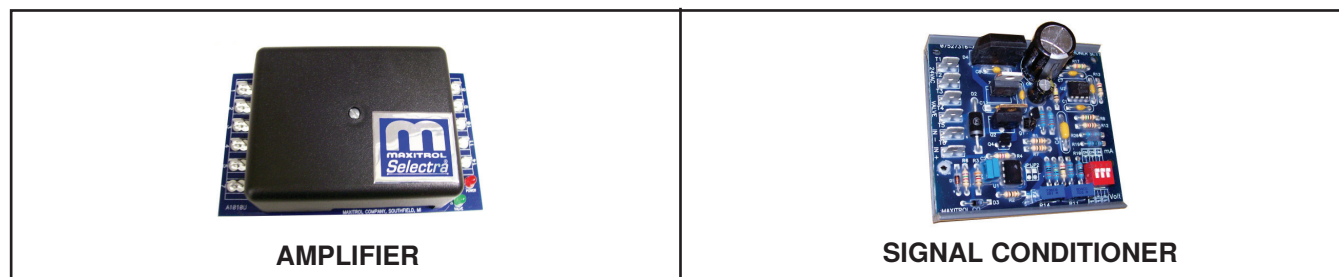
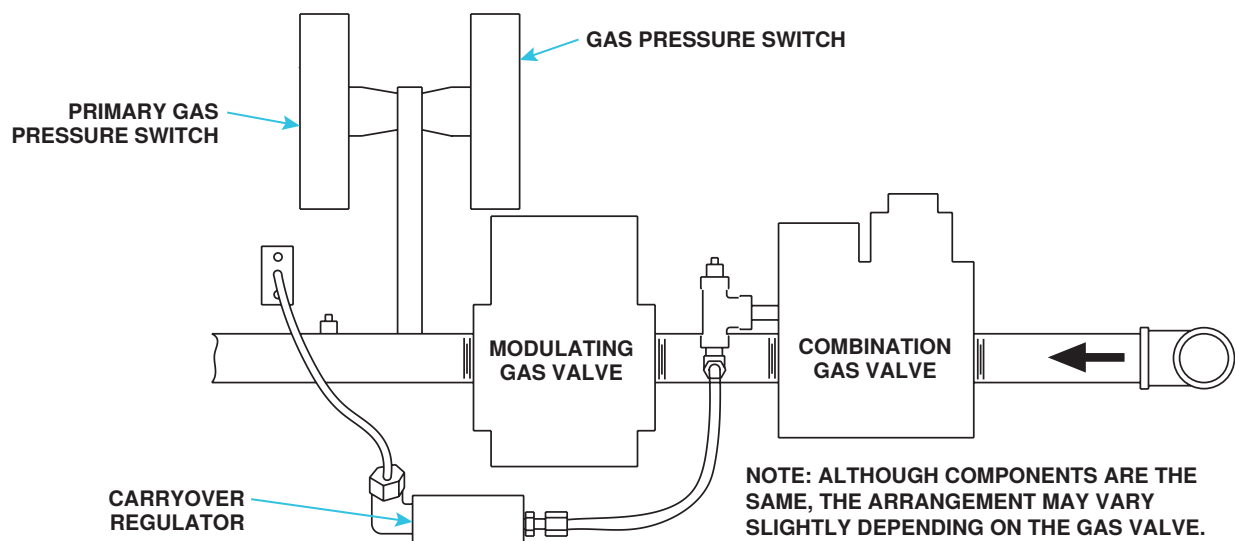

Figure 32. Maxitrol Amplifier and Signal Conditioner
Figure 33. Typical Manifold Arrangement with Electronic Modulation
- **Electronic modulation between 50% and 100% firing rate (option AG8):** Electronic modulation for makeup air application that is controlled by a duct sensor and temperature selector (55–90°F (12.8–32.2°C)). The temperature selector setting for option AG8 is on the amplifier (see Figure 32). Option AG8 is available with an override thermostat.
- **Electronic modulation between 50% and 100% firing rate (option AG21):** With option AG21, the furnace is equipped with a Maxitrol signal conditioner (see Figure 32) that operates much the same way as the amplifier above to control the regulator valve. The signal conditioner accepts an input signal of either 4–20 milliamps or 0–10V from a customer-supplied control device such as a computer. With the dip switches on the conditioner positioned to ON, the conditioner accepts a 4–20 milliamp signal. With the dip switches on the conditioner positioned to OFF, the conditioner accepts a 0–10V signal. The conditioner converts the signal to the 0–20V DC current required to control the modulating valve.
- **Electronic modulation between 20–28% and 100% firing rate (option AG39):** Depending on its size, a furnace equipped with option AG39 has a 20–28% turndown ratio. The furnace will ignite at any input rate in the available range and will maintain average thermal efficiencies equal to or greater than the thermal efficiency at full fire. The gas train (see Figure 33) includes a single-stage gas valve, a modulating valve, and two gas pressure switches. The burner rack is equipped with one flash carryover and a regulated gas lighter tube system. The carryover lighter tube receives its gas supply through the regulator simultaneously with the gas to the burner. Control of the system is through a Maxitrol amplifier (see Figure 32) with a corresponding remote temperature dial. The gas supply (refer to pressure requirements in Table 21) connects to the single-stage gas valve. To compensate for additional pressure loss through the modulating valve, the single-stage gas valve has a custom outlet pressure setting higher than when it is used on a standard gas manifold. The pilot tubing connects to the pilot port on the single-stage gas valve. When the valve receives a call for heat from the amplifier and pilot is established, gas flow from the single-stage valve goes to both the modulating valve and the regulated lighter tube system. When the signal from the amplifier to the modulating valve requires less-than-high fire operation, the modulating valve functions to lessen the gas flow to the burner to reduce the input rate to that which is necessary to maintain the desired temperature. When the input rate is reduced enough to decrease the gas pressure to 1.1 IN WC, the primary gas pressure switch in the manifold activates the gear motor that controls the bypass damper in the venter/combustion air system. The bypass damper opens to divert some of the incoming air directly into the flue duct to reduce air flow through the burner. Safety switches monitor the position of the bypass damper. When the gas pressure rises to > 1.1 IN WC, the bypass damper closes. This uniquely-designed modulation system requires combustion air pressure settings different from the standard system. Refer to Table 19 for the approximate combustion air proving switch settings at sea-level operation. Refer to the Troubleshooting Bypass Combustion Air Damper Safety Circuit on Units with Option AG39 or AG40 section for troubleshooting.
- **Electronic modulation between 20–28% and 100% firing rate (option AG40):** With option AG40, the furnace is equipped with a Maxitrol signal conditioner (see Figure 32) that receives an input signal of either 4–20 milliamps or 0–10V from a customer-supplied control device such as a computer. With the dip switches on the conditioner positioned to ON, the conditioner accepts a 4–20 milliamp signal. With the dip switches on the conditioner positioned to OFF, the conditioner accepts a 0–10V signal. The conditioner converts the signal to the 0–20V DC current required to control the modulating valve. The heater functions and is equipped in the same way as option AG39 except that with computer control, the temperatures are selected through the software and there is no temperature selector or duct sensor. This uniquely-designed modulation system requires combustion air pressure settings different from the standard system. Refer to Table 19 for the approximate combustion air proving switch settings at sea-level operation. Refer to Table 21 for pressure requirements. Refer to the Troubleshooting Bypass Combustion Air Damper Safety Circuit on Units with Option AG39 or AG40 section for troubleshooting.